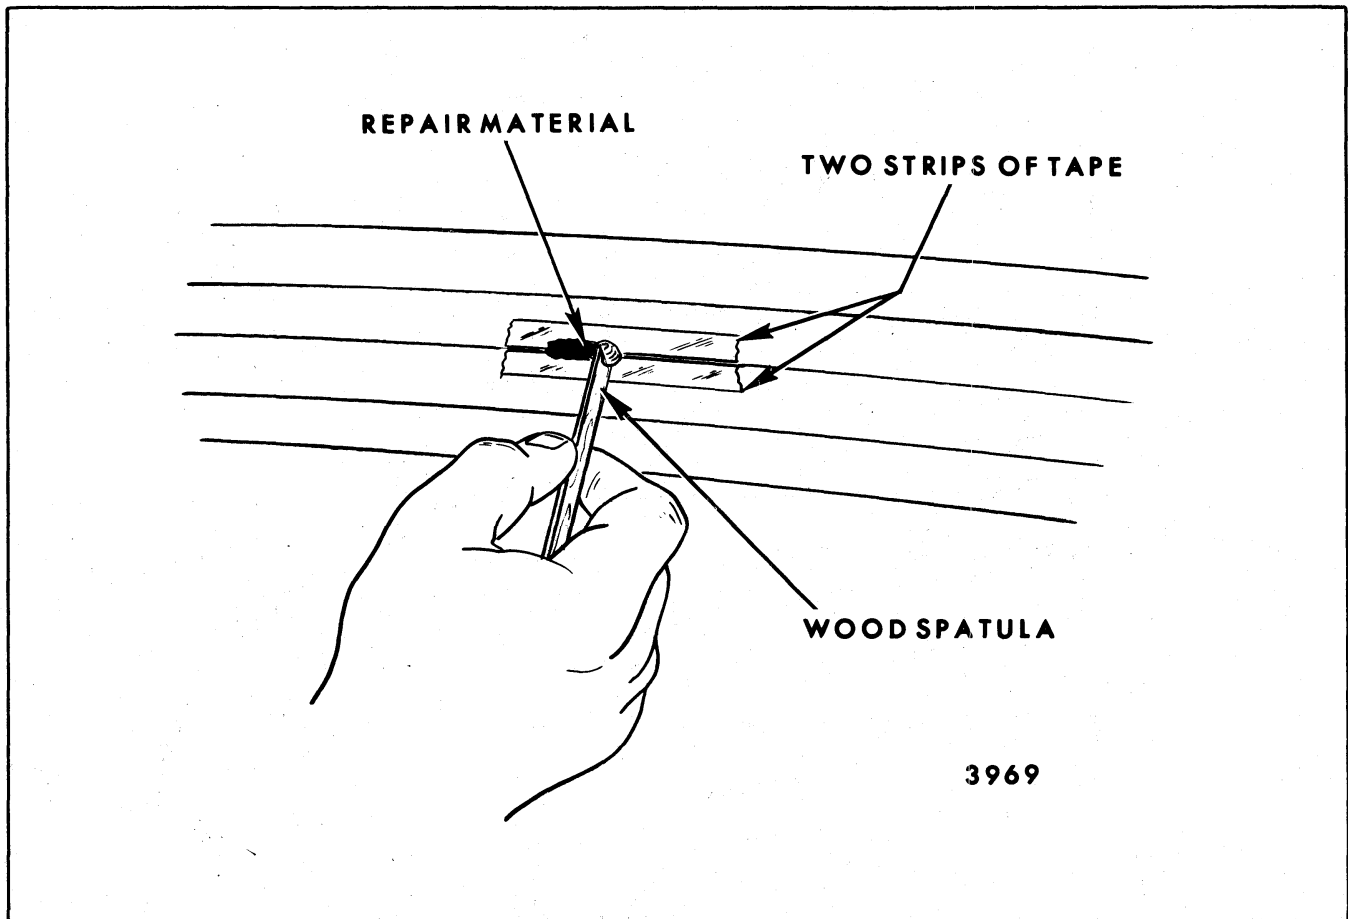

Fig. 10-68-Appling Repair Material to Broken Grid
7. With the glass at room temperature, apply the repair material with the small wooden mixing spatula, slightly overlapping the existing grid line either side of the break (Fig. 10-68).